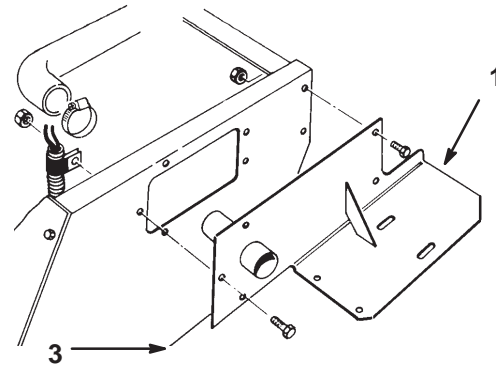

Figure 3
4. Align mounting holes in air cleaner mounting bracket with holes in seat support, and secure with capscrews and locknuts previously removed (Fig. 3).